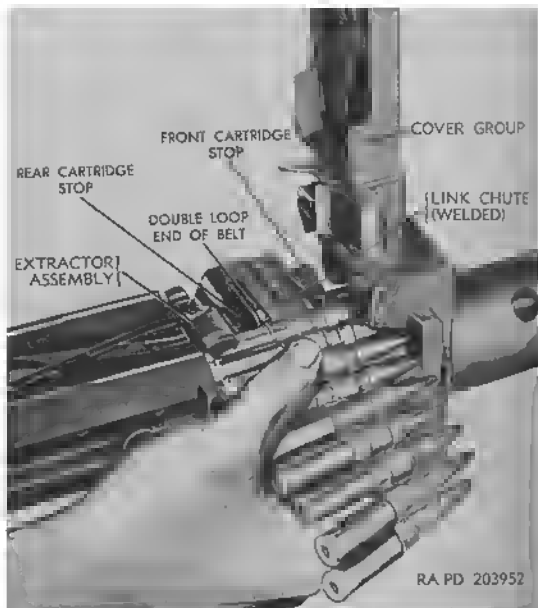

Figure 18. Loading the weapon.
a. With the belt feed cover assembly open or closed, insert the double loop end of the ammunition belt (fig. 18) into the feed opening until the first cartridge is beyond the belt holding pawl.